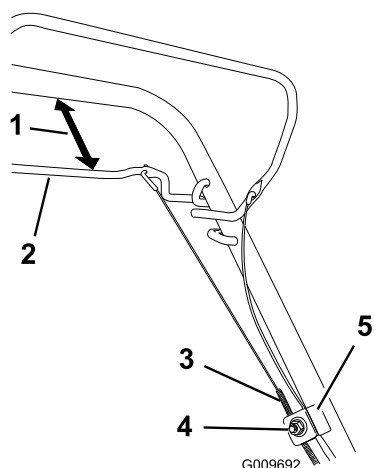

Figure 27
1. Loosen the cable support nut (Figure 27).
2. Hold the self-propel drive bar 25 to 38 mm (1 to 1-1/2 inches) from the handle (Figure 27).
3. Pull down the cable jacket (toward the mower) until there is no slack in the cable (Figure 27).